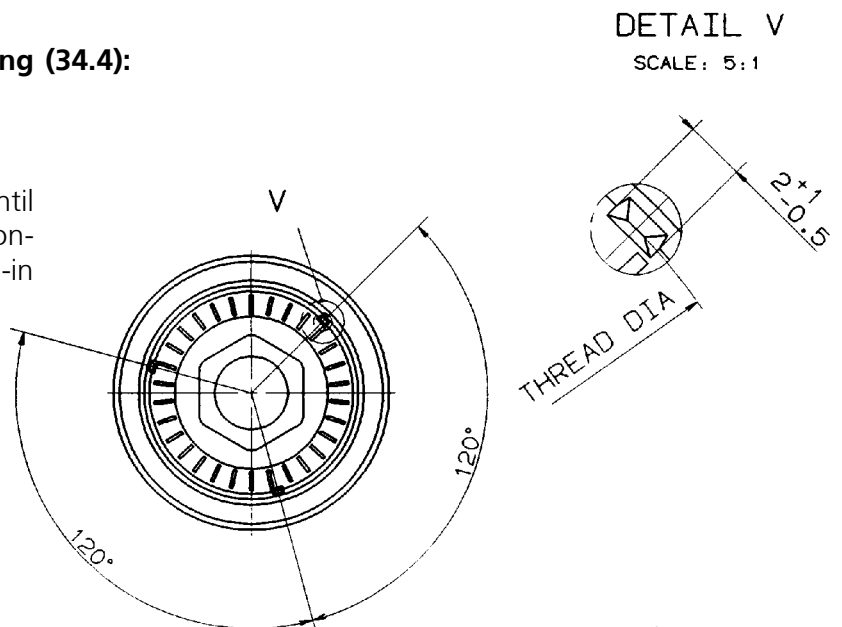

Fig. 42
Peen the adjusting screw (34) in such a way that only material is peened that had not yet been peened previously: see detail „V“ of **Fig. 42**.